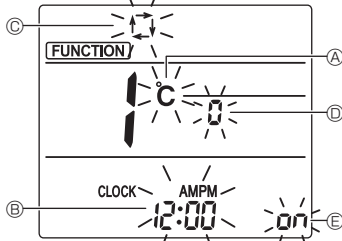

Fig. 4-11
1. Press the **STOP** button ① to stop the air conditioner.
2. Press the **MENU** button ②.
3. Check that function No. "1" is displayed, and then press the **SET** button ③.
4.12.2. Changing the temperature unit (Fig. 4-11 Ⓐ)
- Press the **TEMP** button ⑤.
- Each time the **TEMP** button ⑤ is pressed, the setting switches between **°C** and **°F**.
4.12.3. Changing the time display (Fig. 4-11 Ⓑ)
- Press the **TIME** button ⑥.
- Each time the **TIME** button ⑥ is pressed, the setting switches between **12:00** and **24:00**.
4.12.4. Changing the AUTO mode (Fig. 4-11 Ⓒ)
- Press the **MODE** button ⑦.
- Each time the **MODE** button ⑦ is pressed, the setting switches between **Ⓐ** and **Ⓑ**.
4.12.5. Changing the pair No. (Fig. 4-11 Ⓓ)
- Press the **UP** button ④.
- Each time the **UP** button ④ is pressed, the pair No. 0-3 changes.